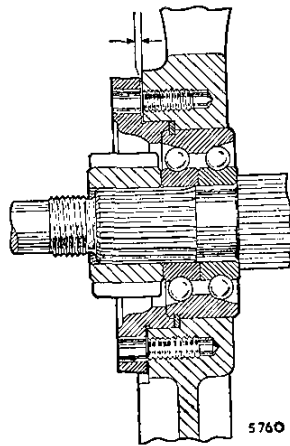

Fig. F.5
(30) Refit the third motion shaft bearing retainer without any shims, lightly tighten the bolts and measure the gap, see Fig. F.5. Fit the shims required (see chart), ensure that they are fitted under the layshaft and reverse shaft locking plate, and finally tighten the bolts and turn over the tab washers.
(31) Refer to item (10). Insert the oil suction pipe into the oil strainer assembly, and tighten first the external flange securing bolts and then the bracket retaining bolts. Take care not to displace the oil seal from the strainer.
(32) Fit new idler gear needle-roller bearings if required. Engage the expandable collets of Service tool 18G 581 with each old bearing and screw up the nut on the tool to extract them, after removing the outer circlip (when fitted) from the transmission casing boss.